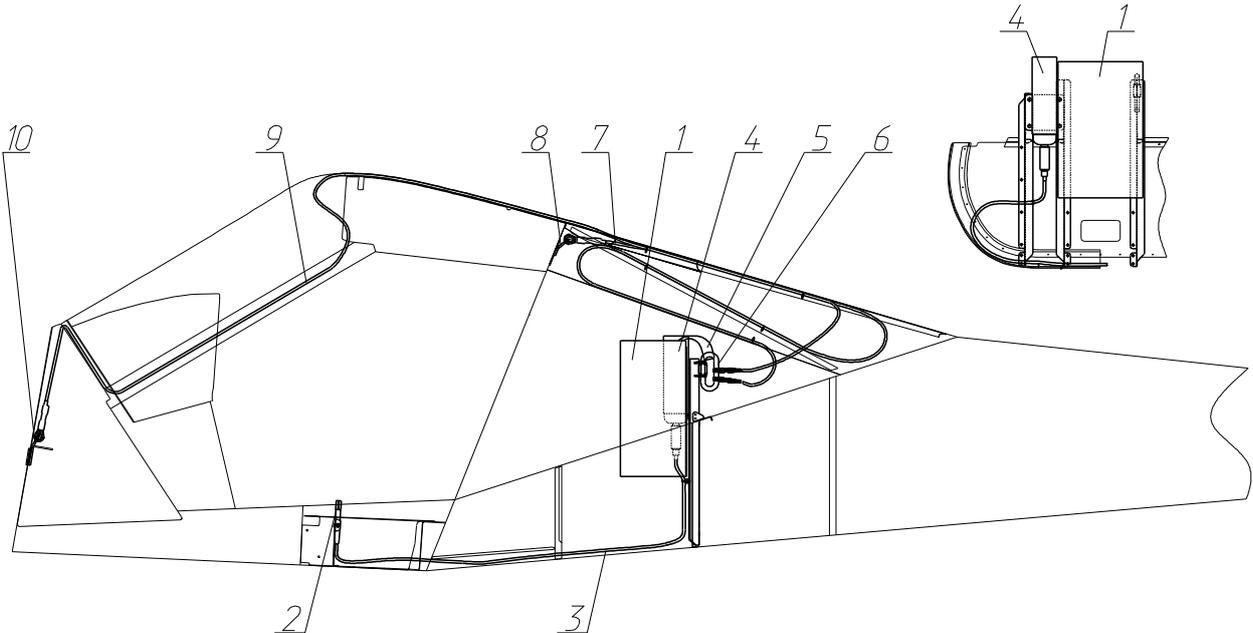

Fig. 25. Recovery system
Installation of the recovery system is shown on **Fig. 25**. The parachute packed into a soft container (1) is located behind the baggage compartment. To deploy the system pull the handle (2) of the ejection device connected with a cable (3) to the rocket housing (4). That launches the rocket which pulls out the parachute, attached with a rope (5) via a carabiner (6) to the cables (7) and (9) fastened to the attachment points (8) and (10). The locations of the attachment points and the cables' length are selected so that the aircraft when descending with deployed parachute is suspended in a certain attitude (wings level, nose lowered). Such attitude ensures a high level of safety to pilots during emergency landing despite the fact that the aircraft structure is likely to be damaged while absorbing the impact at touchdown.